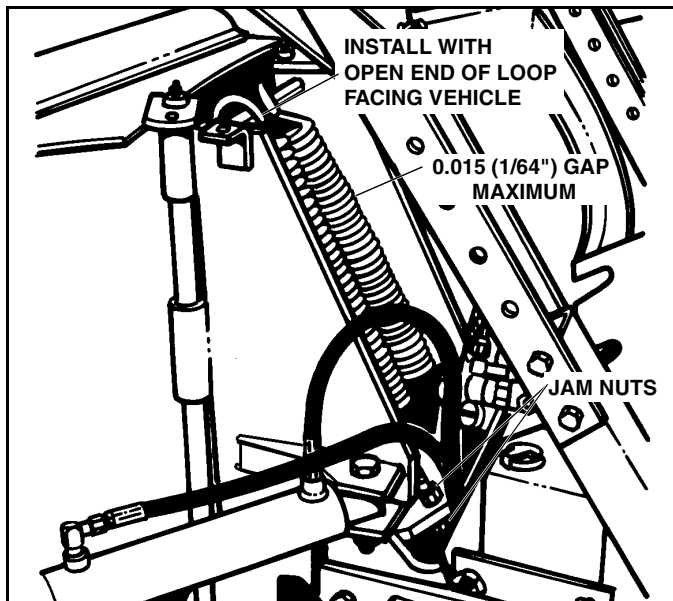

Figure 1-10
3. Check to make sure that the spring is installed as illustrated with open end of top loop facing vehicle. (See Figure 1-10)
4. Using a 15/16" socket wrench through the holes in the bottom plate of the main frame, loosen the two (2) 5/8" nuts on the trip spring eyebolts. (See Figure 1-10)